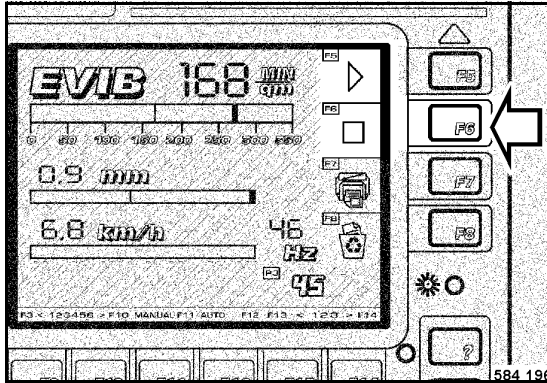

Fig. 98
- When the end of the track, mark 2, is reached, press the button F6 "STOP" (Fig. 98).